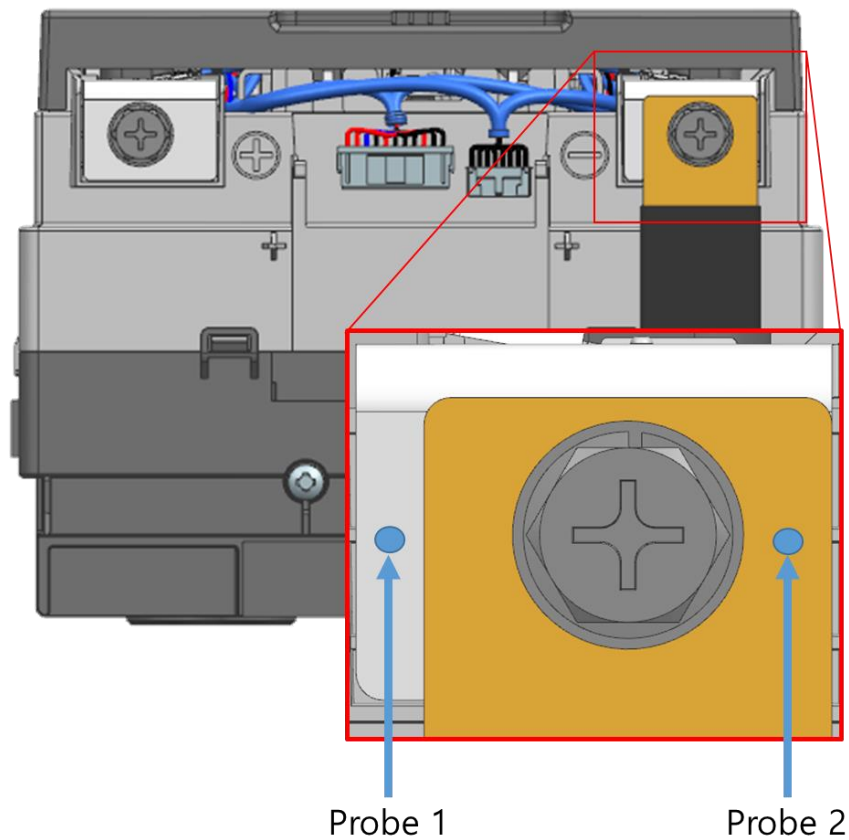

Figure 3-36: Contact Resistance Probe Points (Battery Module Terminal to Busbar)
- After connecting the busbar to the terminals (battery module, SMU, fuse), measure the contact resistance between the terminals and the busbars using a low resistance meter. Refer to Figure 3-36: Contact Resistance Probe Points (Battery Module Terminal to Busbar) for location of the measurement. Use similar probe locations for SMU terminal to busbar contact resistance, and fuse to busbar contact resistance. Make sure each probe is in contact with only the intended location.